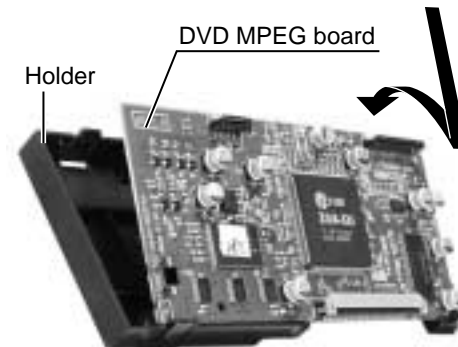

Fig.8
**■ When inserting DVD MPEG board in holder. (see fig.8)**